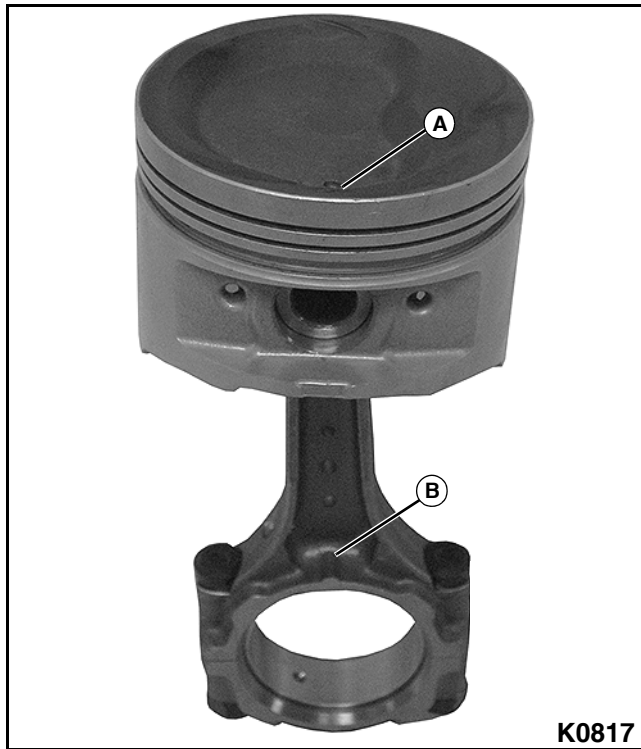

Figure 3-217
1. There are matching marks on the side of connecting rod body and cap, do not exchange with others. The protrusion on the connecting body (B) and cap should be in the same side with concave point positioned on the top of piston (A), and towards front of engine. **See Figure 3-217.**